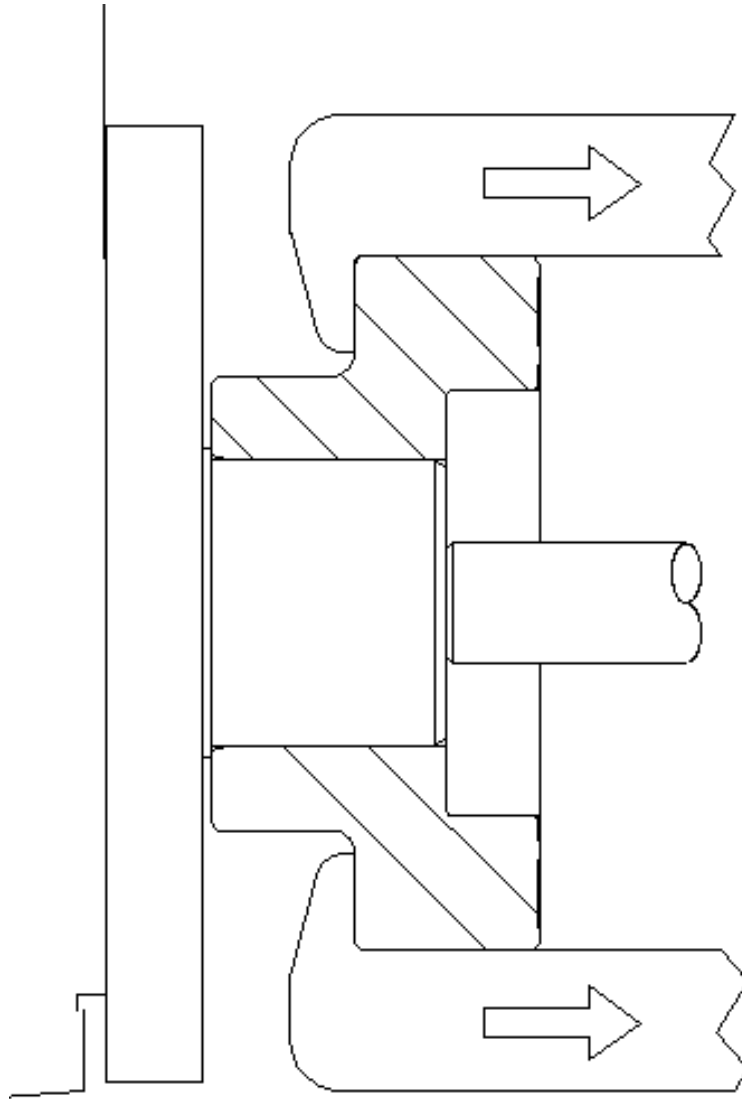

Figure 34. Simple Disassembly Device
2. Use an appropriate puller to pull the coupling from the output shaft (Figure 34). Apply force against the end of the exposed output shaft while pulling on the couplings. Do not apply a blunt force to the coupling or shaft.